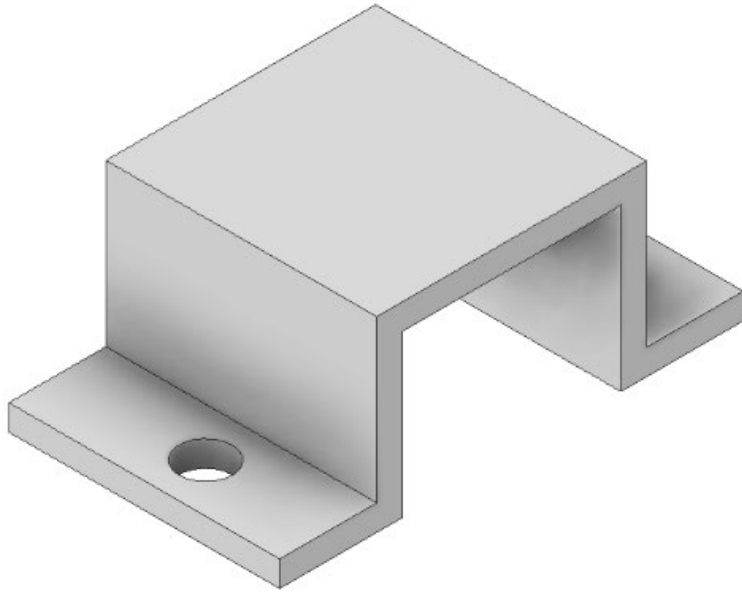

Figure 3: Vibration Motor A Holder
2. Place the vibration motor A holder (Figure 3) on the acrylic base plate and hot glue it.